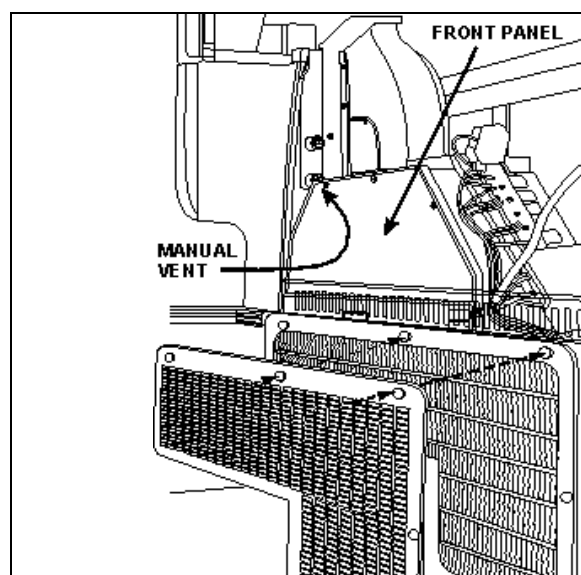
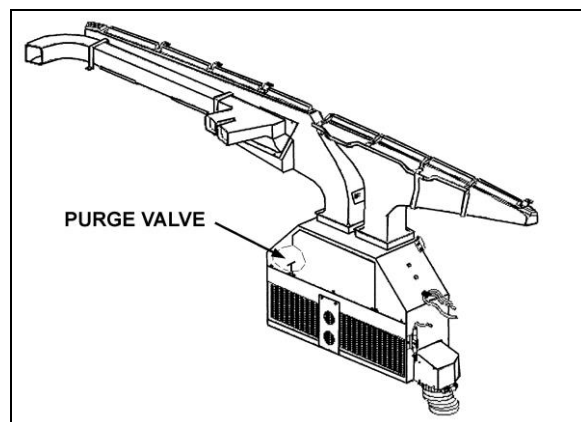
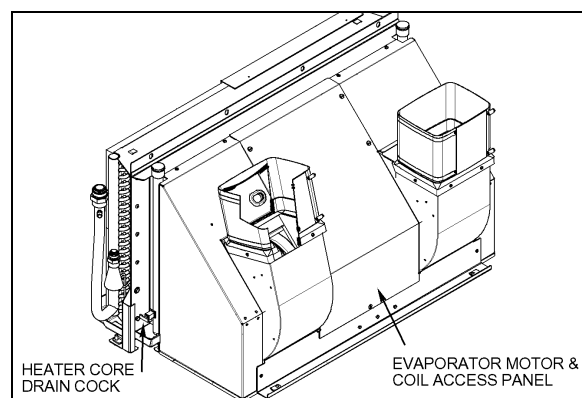
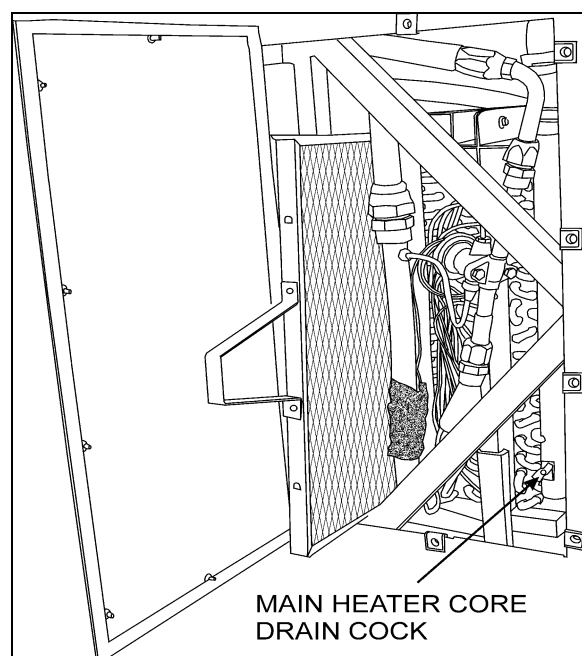

FIGURE 69: DRIVER'S HVAC/DEFROST UNIT
FIGURE 70: DRIVER'S UNIT AIR MIXING BOX
FIGURE 75: HEATER CORE DRAIN COCK
FIGURE 76: EVAPORATOR COMPARTMENT
Fresh air is taken from behind the R.H. side headlights assembly (H3 series) or from a plenum underneath the front service compartment (X3 Series) and enters the mixing box through a ON/OFF damper. Return air is taken through the right console into the mixing box (Figure 70). Mixed air goes through cooling and heating coils, fans and discharge ducts.
4. From inside of vehicle, remove the two finishing panels in front of unit. Remove the three screws fixing the unit front panel. Open the purge valve located inside the driver's unit (Figure 70). If present, open the manual vent located inside the HVAC unit, on the driver's side (Figure 69) to ensure an efficient draining.
4. Open drain cock in bottom of heater core (Figure 75 & Figure 76), you can unfasten a hose connection on top of heater core (Figure 76) in order to allow air to enter while draining. The main heater core drain cock is located in the evaporator compartment. To access the valve on X Series vehicles, open baggage compartment door located in front of the evaporator compartment (L.H. side). Open access panel by turning the three quarter-turn screws.
Whenever the heating system has been drained and refilled, or the system has run low on coolant and coolant has been added, it is necessary to bleed air from heating system. Locate the purge valve illustrated in Figure 70 & Figure 75, and open them momentarily until no air escapes from the lines. If present, open the manual vent located inside the HVAC unit, on the driver's side (Figure 69).